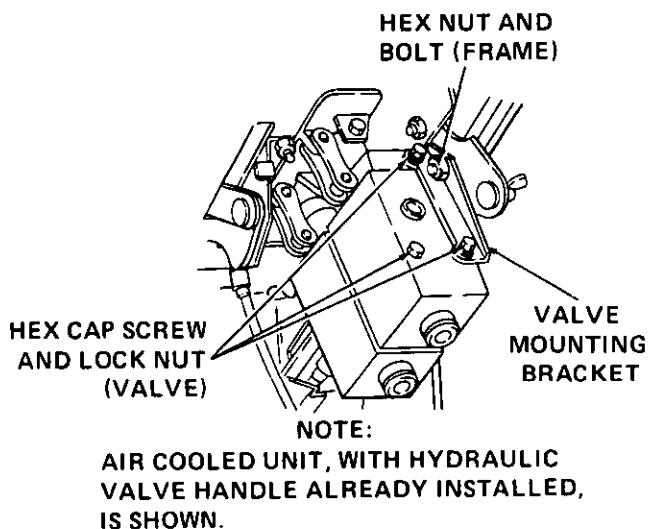

Figure 13
- Align bottom port of hydraulic valve (A) with valve adapter (G) and position hydraulic valve on top of installed valve. Refer to Figure 13.
- Position the valve mounting bracket on top of hydraulic valve (A) and loosely secure valves together with three hex cap screws (I) and hex center lock nuts (J). Refer to Figure 13.
- Loosely secure the valve mounting bracket to the frame with hex nut and bolt retained in step C.4. Refer to Figure 13.
- Alternately and evenly tighten the three hex cap screws securing the two valves together. Refer to Figure 13. Then tighten valve mounting bracket to frame.